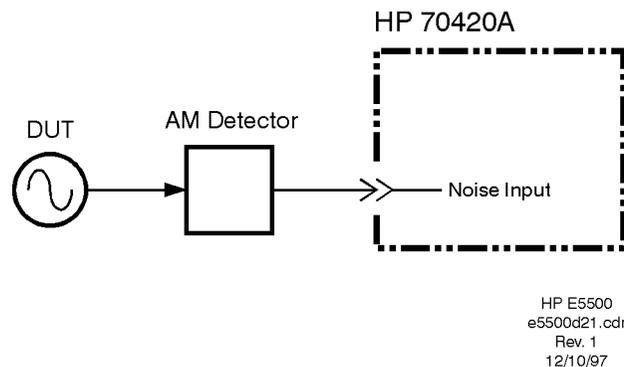

Figure 12-14 Double-sided Spur AM Noise Measurement Setup Method 1, Example 2
1. Connect circuit as shown in Figure 12-14, and tighten all connections. If the Agilent/HP 70420A Option 001 or Agilent/HP 70427A is available, use one of the connection diagrams described in “AM Noise Measurement Block Diagrams” on page 12-3.